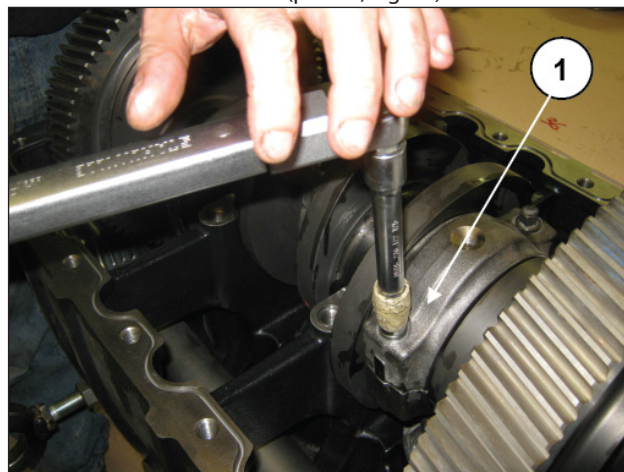

Fig. 28
Unscrew the conrod screws (pos. ①, Fig. 28).